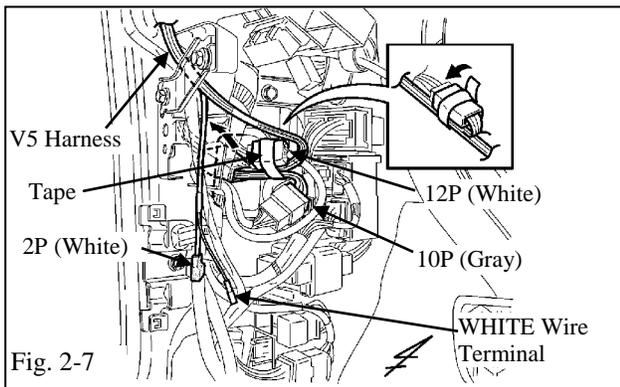

Fig. 2-7
- (l) Plug the V5 harness' Gray 10P connectors between the vehicle harness' Gray 10P connectors, then insert the Gray 10P connectors into the hole in the driver side cowl area. (Fig. 2-7)
- (1) Verify the connectors are plugged in securely.
- (m) Reconnect the vehicle harness' white 12P connector and secure it to the vehicle harness using electrical tape. (Fig. 2-7)